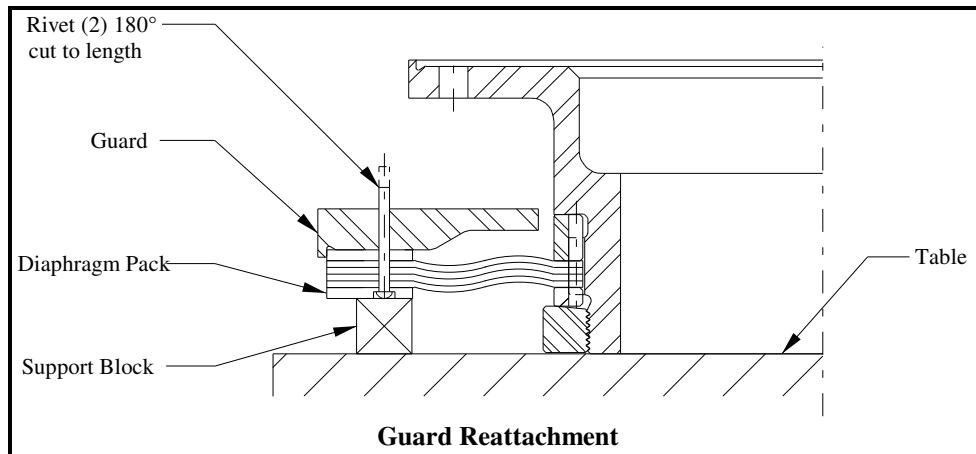

Figure 4-13
4.7.1.9 If the inspection performed in Paragraph 4.7.1.8 does not identify a problem and the diaphragm pack sub-assembly is to be returned to service, re-attach the guard to the diaphragm pack using two (2) new rivets. The rivet should extend above the guard approximately 3/16-1/4 in. to allow for peening. Proper support must be provided for the diaphragm pack during riveting to avoid possible damage (see Figure 4-13). The rivet head must not protrude beyond the face of the diaphragm pack.